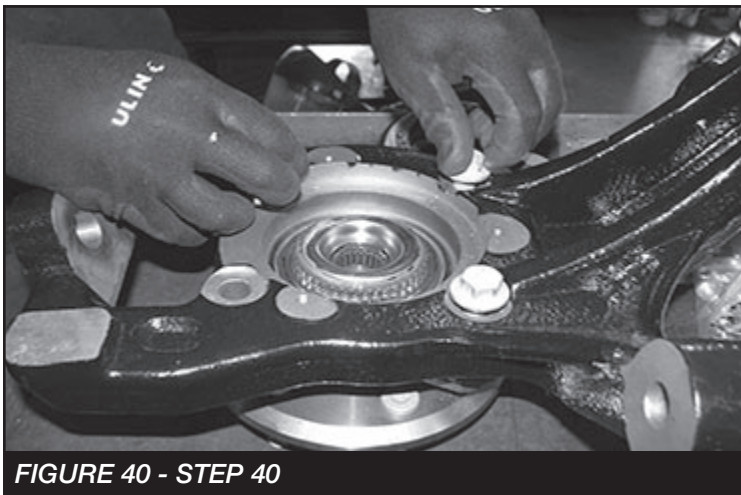

FIGURE 40 - STEP 40
40. Locate the Fabtech driver side spindle (FT30601D) and install the factory hub. Torque the four 14mm bolts to 160 ft- lbs. **SEE FIGURE 40**